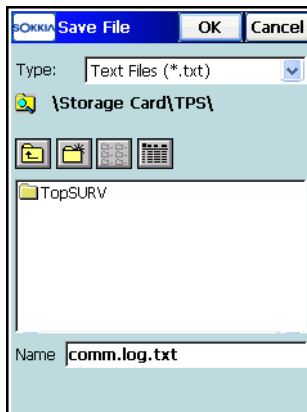

Figure 2-9. Save File
2. Check mark the *Log to file* box to save the data to a file. When the *Save File* screen (Figure 2-9) displays, assign a name and select a desired directory in the controller to save the file.